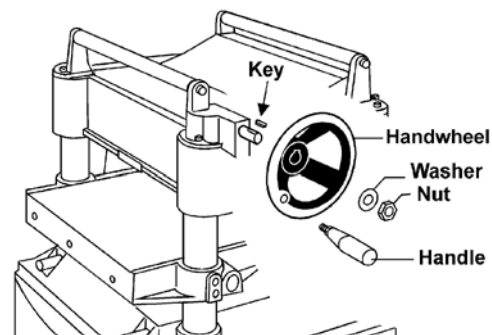

Figure 5
1. Remove the nut and washer from the gearbox shaft. Insert the key into the slot on the gearbox shaft (see Figure 5).
2. Place the handwheel onto the shaft (see Figure 5), making sure it is oriented so the handwheel slips over the key.